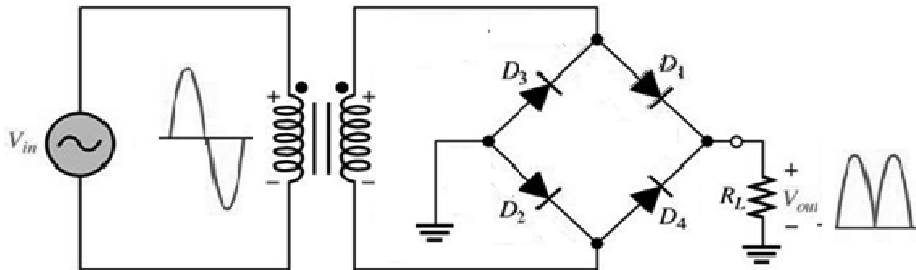

Figure. 1 Bridge Rectifier
- Connect the Electronic circuit for Bridge rectifier on bread board / kit as shown in circuit diagram (Figure 1).